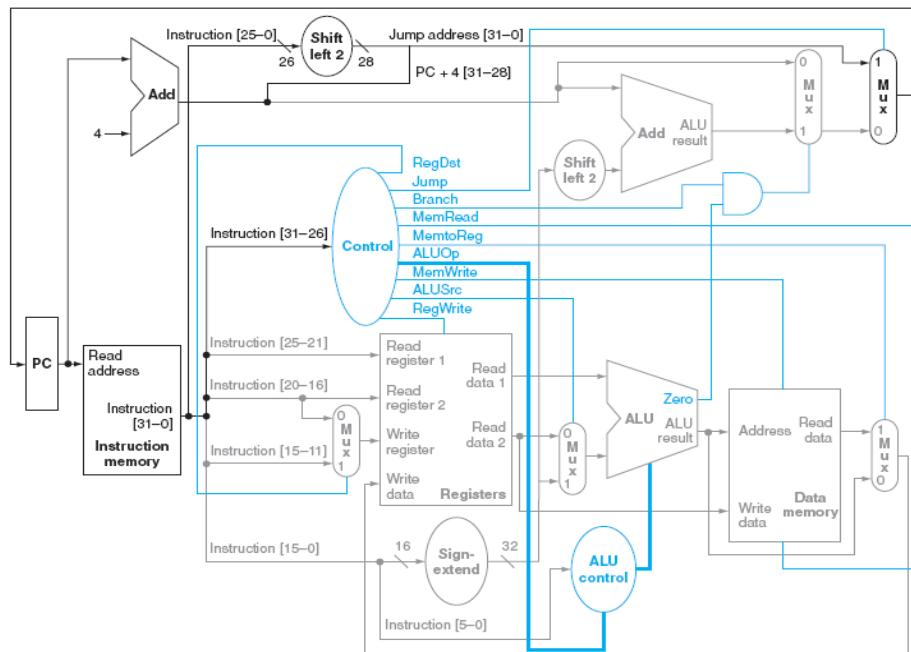
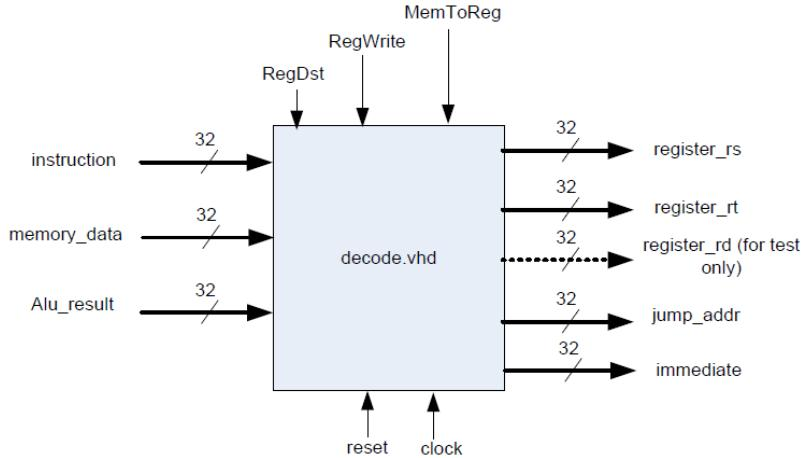
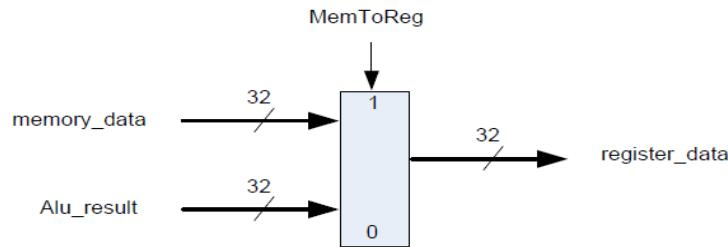

Figure 8-1: Single Cycle MIPS Datapath
Figure 8-2: Decode Module
Figure 8-4: Multiplexer that selects the source of data to be sent to the destination register
The decode module in the overall data path diagram is shown in a blue circle in Figure 8-1. The functional block diagram of the decode module is depicted in Figure 8-2. In this design, the registers will be placed inside the decode module. Note from the diagram that the decode module includes output signals denoted *register_rs* and *register_rt*. These are two register values read from the register file pointed by the rs and rt fields of the instruction, which will be sent to ALU. It also includes *jump_addr* and immediate signals that are directly decoded from the instruction. The job
- The second multiplexer determines whether the data to be stored at the destination register is coming from ***Alu_out*** or ***memory_data (read_data)*** in Figure 8-1). This relationship is shown in Figure 8-4